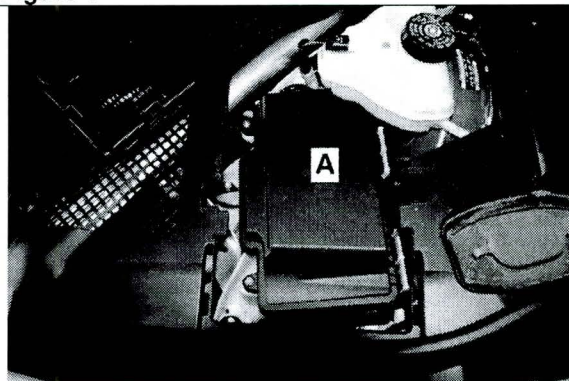

Figure 2
3.  Remove cover on engine fuse and relay module. (Figure. 2).